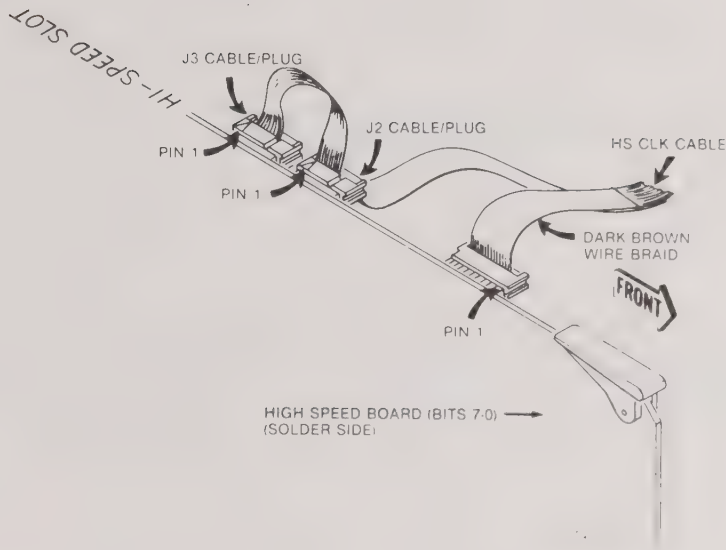

Figure 7-2. Ribbon Cable Connections, High-Speed Input Lower Bits Option
4. Referring to Figure 7-2, locate the two unattached ribbon cables labeled HS CLK. Lift the board approximately an inch and install the larger ribbon cable connector on J1. The dark-brown wire braid on the connector should be located to the front of the machine. (NOTE: If J1 is installed backwards, equipment will not be damaged; however, the data at channel 0 will be displayed on channel 7. Reversing the connector will correct the condition.) Next, install the smaller ribbon cable connectors on J2 and J3. They should be connected as shown in Figure 7-2 with the intermediate connector on J2 and the end connector on J3. The engraved arrows at J2 and J3 should be located to the rear of the unit.